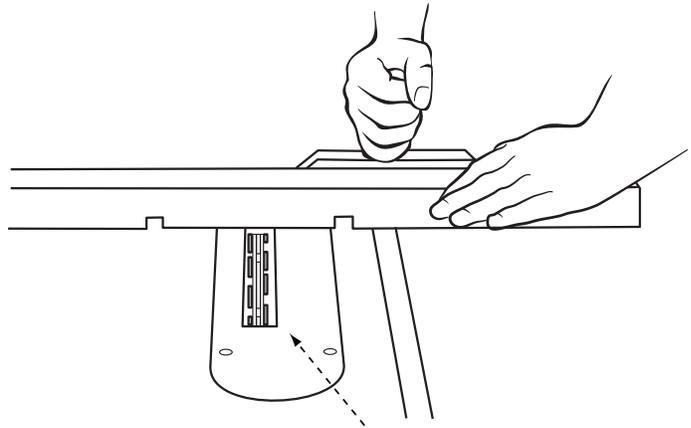

FIGURE 31
- The accessory dado head set throat plate, shown in Figure 31, must be used in place of the standard throat plate. Be sure the throat plate is level to the table before you proceed.